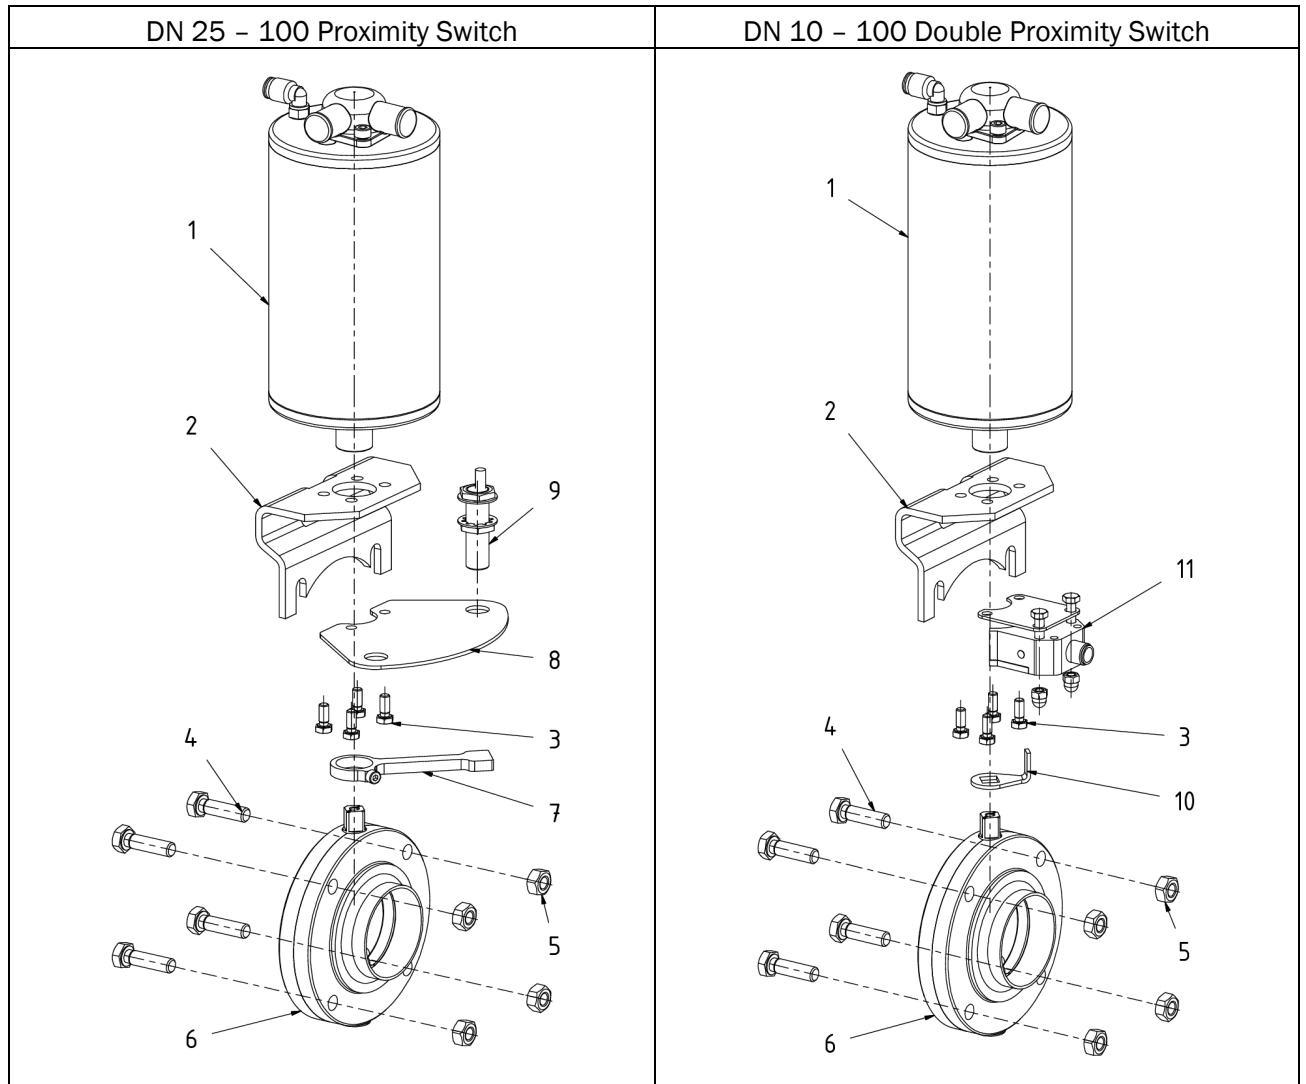

Fig. 6.9: Component Layout of the Pneumatic Actuator with Feedback
Screw the proximity switches as far as they will go into the corresponding threaded holes on top of the actuator. (see Fig. 6-9, item 1)
If you intend on using a feedback device, attach it below the holding bracket (Fig 6-9, item 2) before combining the pneumatic actuator (Fig 6-9, item 1) and the butterfly valve.
- Secure the sensor support (Fig. 6-9, item 8) together with the holding bracket (Fig. 6-9, item 2) to the pneumatic actuator (www.awh.euFehler! Verweisquelle konnte nicht gefunden werden., item 1) by using the hexagonal bolts (Fig. 6-9, item 3).
- Clamp the control cam (www.awh.eu, Fig. 6-9, item 7) to the actuator shaft of the actuator.
***NOTE:** When doing this, make sure that the end of the signal contact arm is located just below the proximity switch in the “Open” or “Closed” position, and that the proximity switch has been installed in the hole of the support (Fig. 6-9, item 8), perpendicular to the cylinder of the pneumatic actuator (Fig. 6-98, item 1).*